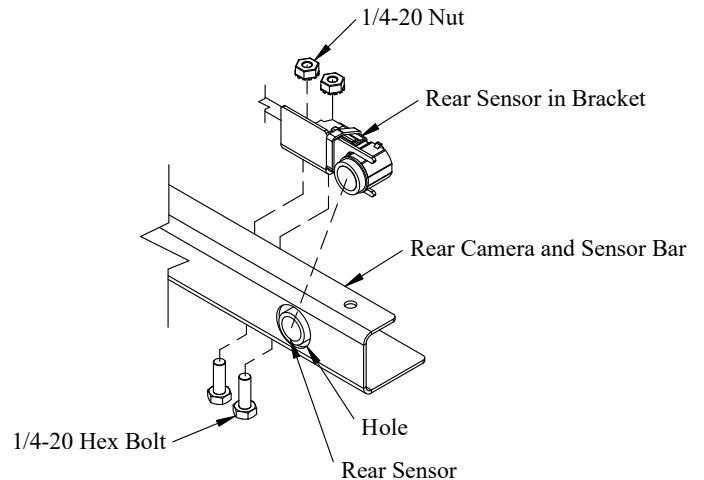

Figure 8: Rear sensor installation.
11. Install rear sensors with brackets into rear camera and sensor bar using the supplied 1/4"-20 hex bolts and nuts (Figure 8).